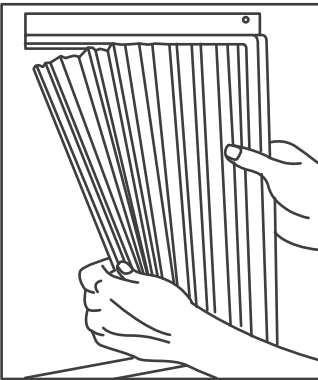

Fig.2
- Hold the Accordion Panel in one hand and gently pull back the center to free the open end. See Fig.2.